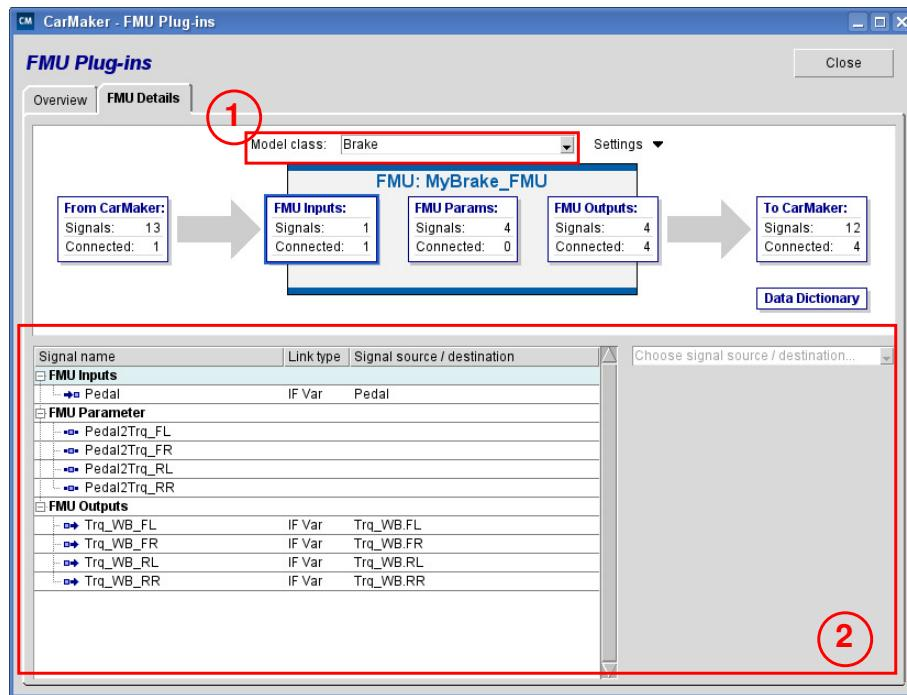

Figure 9.3: FMU Edit
If the FMU is opened in CarMaker for the first time, it must be adapted to the CarMaker simulation environment before it can be used. Select the desired FMU and click *Edit* to change to the tab *FMU Details* shown in Figure 9.3.
Before the FMU can be configured, the appropriate model class must be selected (see (1) in Figure 9.3). Possible model classes are the following:
When this is done, all FMU input parameters must be connected to the suitable input/output signals. For this, use the table as shown in (2) in Figure 9.3.